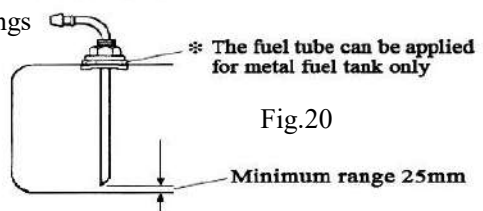

Fig.20
4.4.6 Installation of Fuel Sucking Device (Fig.20)